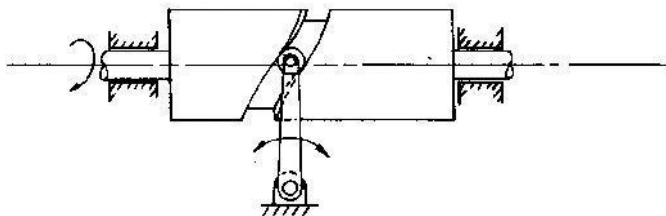

Fig. 6.2 Cylindrical cam.
**b) Cylindrical cam (Fig. 6.2):** The cylindrical cam has a groove cut along its cylindrical surface. The roller follows the groove, and the follower moves in a plane parallel to the axis of rotation of the cylinder.